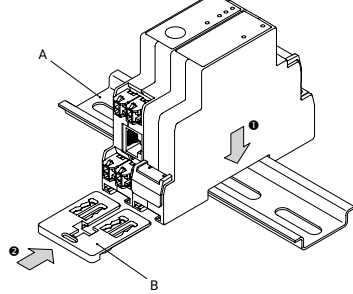

Fig. 4
Place the Shelly Pro 3EM with the attached Shelly Switch Add-on on the DIN rail fig. 4(A) and insert the supplied double mounting bracket fig. 4(B) to fix the attached devices to the DIN rail.